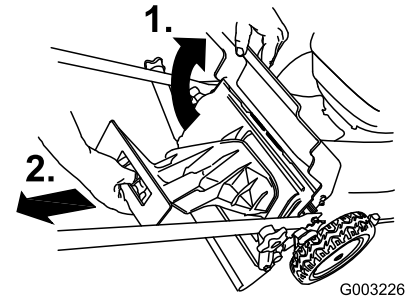

Figure 22
1. Raise and hold up the rear door (Figure 22).
2. Remove the rear discharge plug (Figure 22).